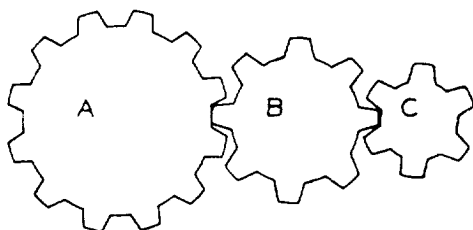

Figure 2D
- 2-31. The speed ratio of the gear train in figure 2D is 2 to 1. If gear B is removed and gear C is placed so that it runs directly off gear A, the speed ratio will be